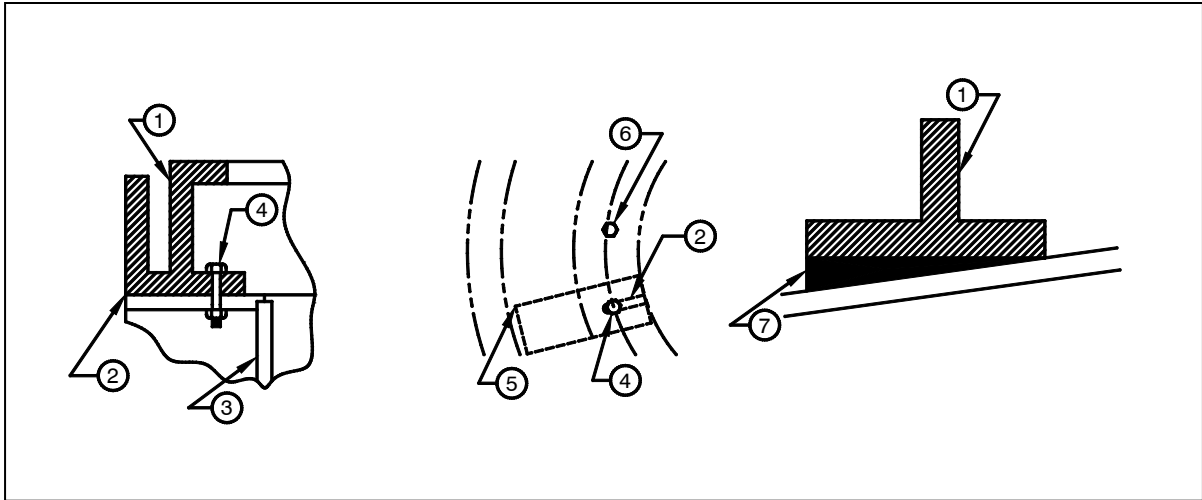

Figure 2.7c
- c. Shim at the mounting capscrews, using the Ovivo furnished shims and referring to Figure 2.7c. Insert shims from the outside of the drive to the inside. Since the shims ensure the level of the drive for optimum service life of the main bearing, use only these stainless steel shims provided by Ovivo. Do not use any other type of shims or shim material.